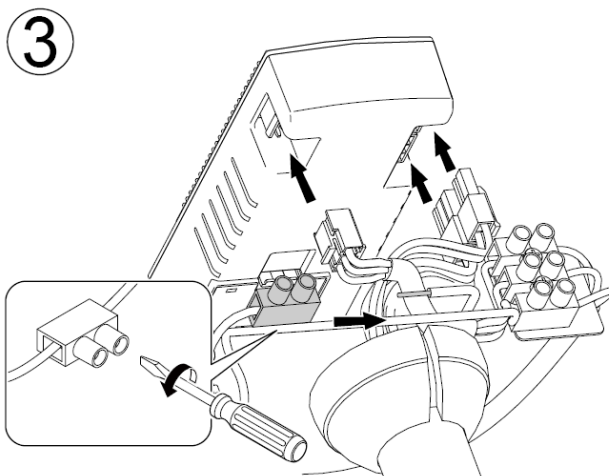

Fig. 6.3
3. Connect the wiring looms to the receiver. (Fig. 6.3)